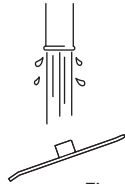

Fig. 15
- 3** Thoroughly rinse the dirt released in immersion as well as the detergent under running tap water (Fig. 15).